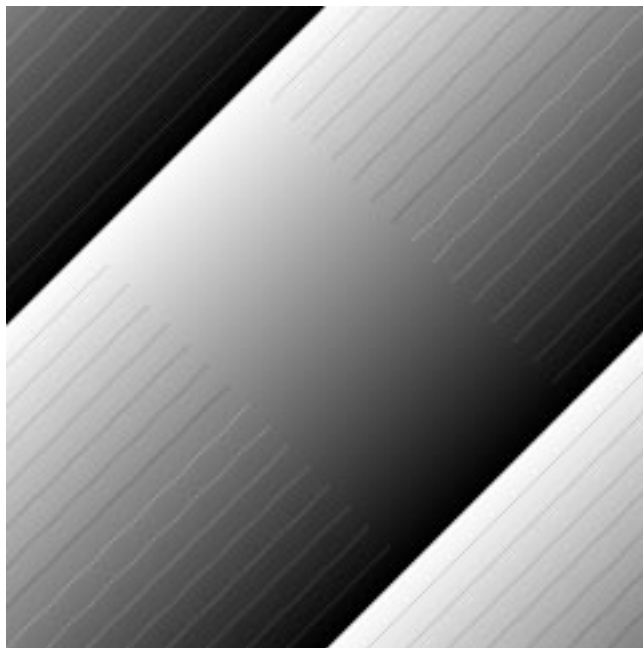

Figure 3-1. *GRAY512.TIF* Test Print File
1. Print the file *GRAY512.TIF* and inspect the printout for horizontal and vertical banding associated with the print engine itself. Refer to figure 3-1.